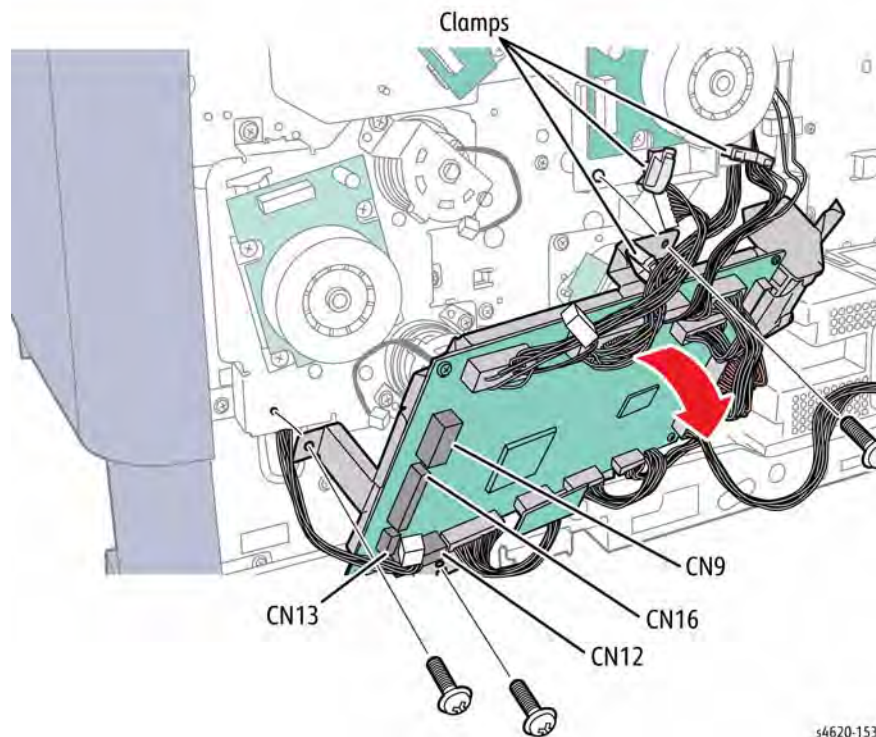

Figure 1 Disconnect the MCU Board
8. Remove 3 screws (metal) that secure the MCU Board bracket to the chassis, Figure 1.